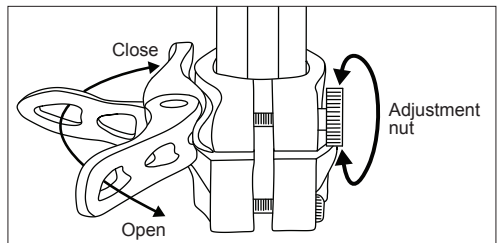

Fig. 50: Octagon® quick release adjustments.
4. Close the quick release lever. The tightness of the lever is adjusted by rotating the adjustment nut opposite the quick release lever. Turn the nut by hand to adjust the tension while holding the lever stable (Fig. 50).